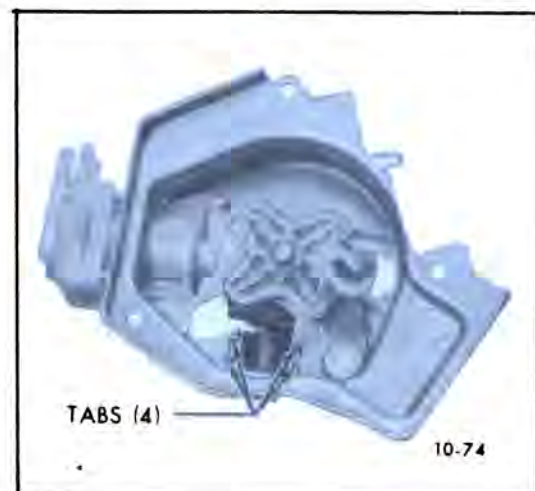

Figure 10-54 Removing Pump Relay Coil
5. Chisel off the four bent-over tabs that secure the coil mounting bracket to the base. See Figure 10-54.